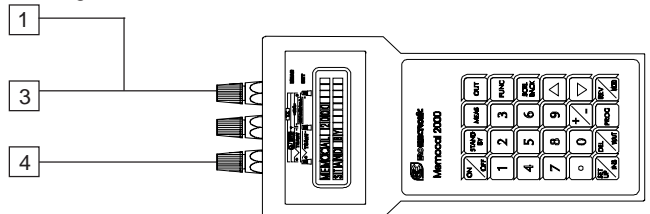

Fig.5
- 1) Connect the instrument under test to the calibrator as shown in Fig. 5.